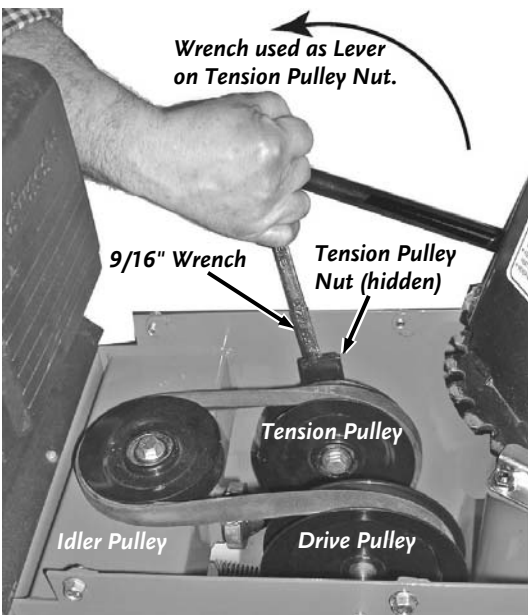

Figure 16
3. Using a 9/16" Box Wrench on the Tension Pulley Nut (**Figure 16**), pull on the Wrench to release the tension and remove the old Belt from the Pulleys.
5. Using a 9/16" Box Wrench on the Tension Pulley Nut (**Figure 16**), pull on the Wrench to release the tension to install the Belt on the Tensioner Pulley, Idler Pulley and the Drive Pulley. Make sure that the V-Belt is not twisted and fits into the V-groove on the Pulleys and ease the Tension Pulley back into position by releasing the Wrench.